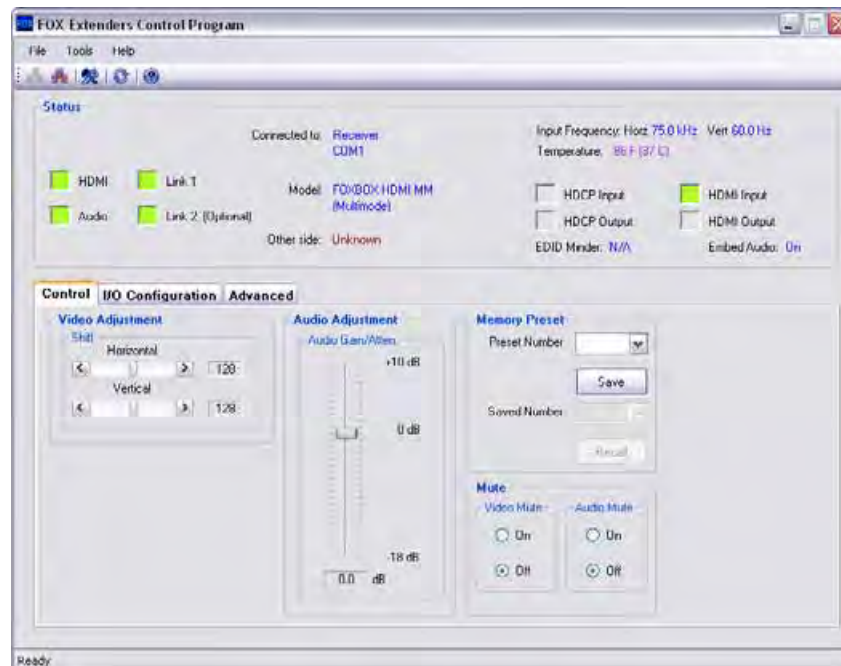

Figure 16. FOX Extenders Control Program Window
2. Select the Com port to which your transmitter or receiver is connected. Click **OK**. The FOX Extenders Control Program window appears (see figure 16).
- Figure 16 is an amalgam of program displays. Some controls and displays are available when connected to the transmitter **only** and some when connected to the receiver **only**. These functions are identified in the descriptions that follow.